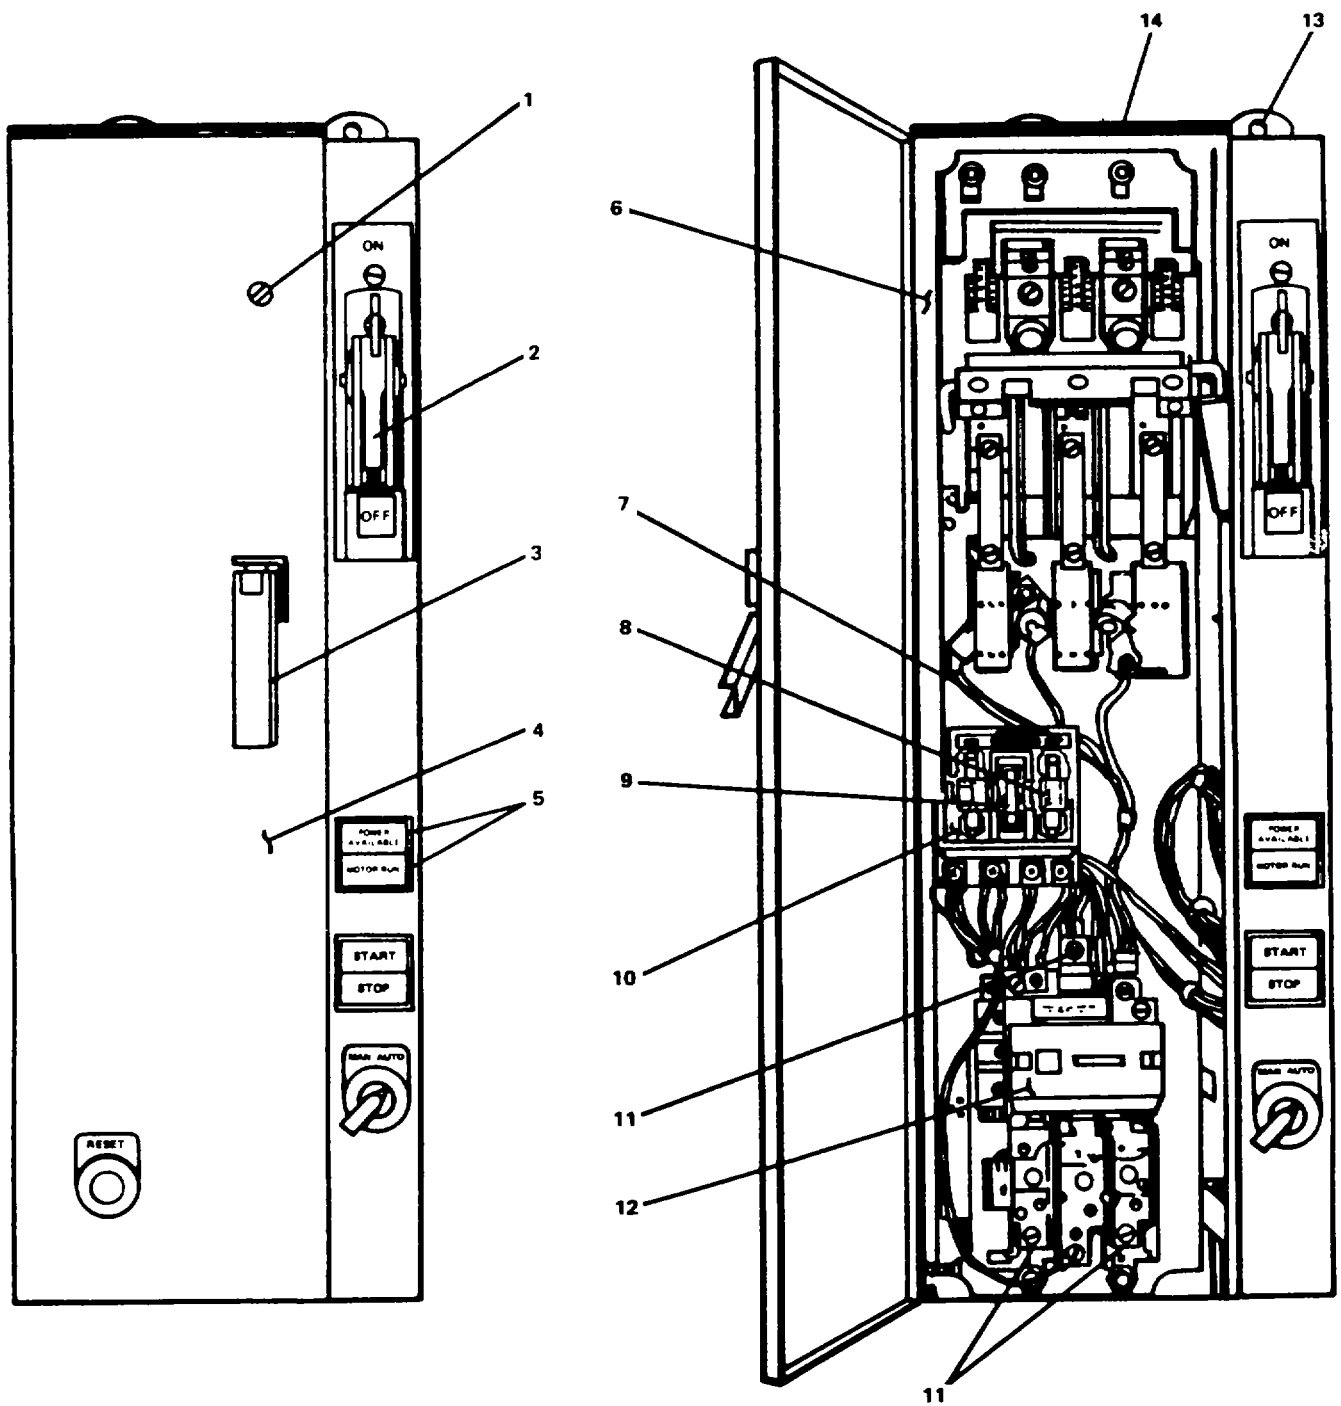

Figure 2-76. Motor Controller (Bilge and Ballast Pump).
- a. Remove lens cover (5, Figure 2-76).